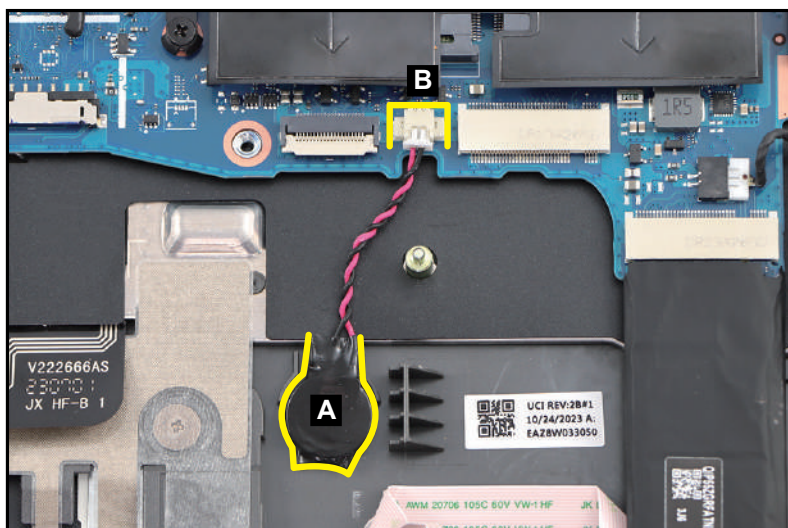

Figure 3-134. Replacing the RTC Battery
1. Align and install the RTC battery (A) onto its slot on the top assembly (Figure 3-134).
2. Connect the RTC battery cable to the mainboard connector (B) (Figure 3-134).